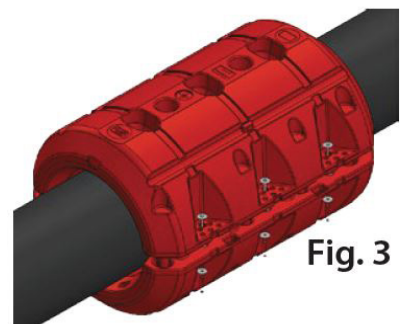

Fig. 3
3. Place the remaining half of the Pipe Float on top of the pipe. The alignment legs should enter the depression on the bottom float half (Fig. 3)